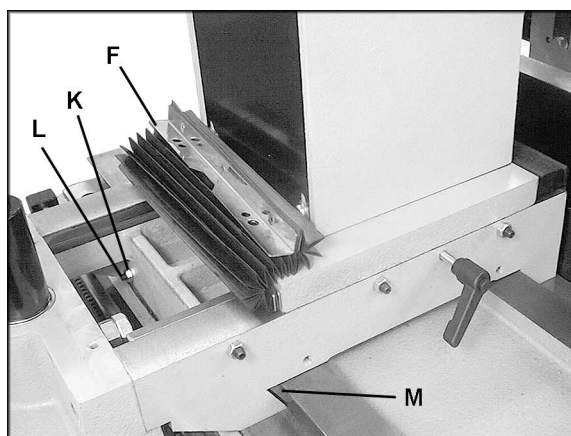

Figure 19
1. Remove the two screws on the pleated dust cover (F, Figure 19) and move the dust cover out of the way.
2. Loosen the three hex nuts (K, Figure 19) with a 10mm wrench.
3. Turn the three set screws (L, Figure 19) until all play is eliminated on the gib (M, Figure 19).
4. Re-tighten the three hex nuts (K, Figure 19).
5. Re-install the pleated dust cover (F, Figure 19) before operating.